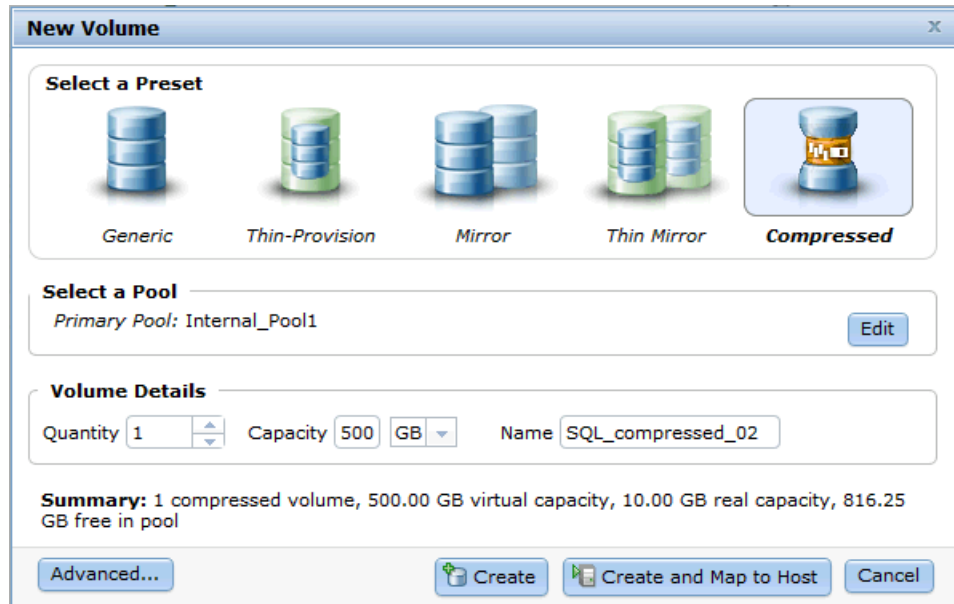
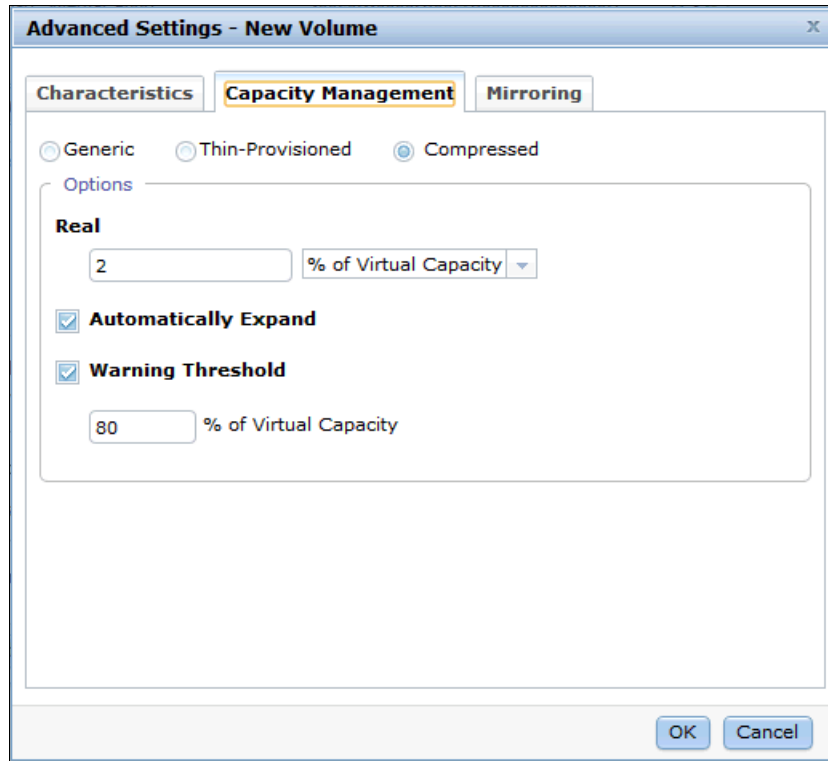

Figure 6-20 Compressed Volume - Enter name and size
Figure 6-21 Compressed Volume - Advanced properties
2. Select a pool where you want the new compressed volume as shown in Figure 6-20. Type a name for the new compressed volume, and the size, then click **Create**.
3. In Figure 6-20, click **Advanced** and choose capacity management options as shown in Figure 6-21.